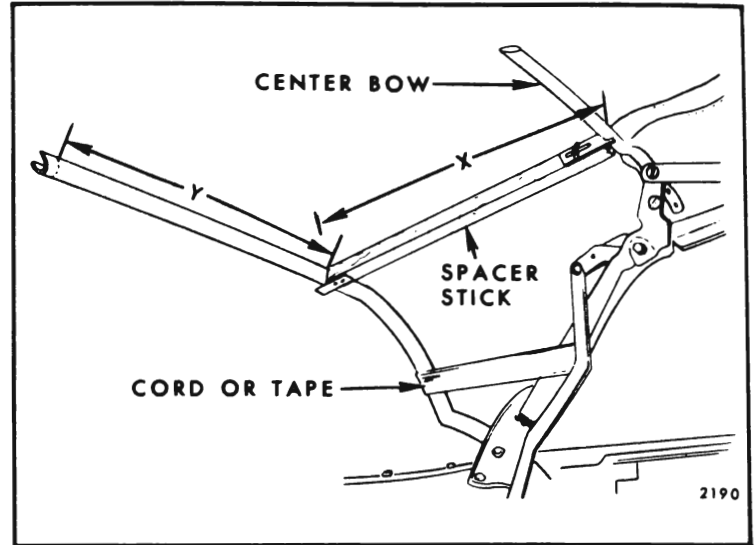

Fig. 6-10—Spacer Stick Installation
24. Lock top to windshield header. Install radius end of each adjustable spacer stick to fit against center roof bow. Install opposite end of spacer stick so that metal plate fits under rear roof bow. Spacer sticks should be installed along inboard edge of side stay pad (Fig. 6-10).
NOTE: The approximate dimension for location of spacer sticks, measuring outboard from centerline dimple of rear roof bow, is 19-3/4" for "B & C" Body Styles, 15-1/2" for "Z" Body Styles and 19-11/16" for "A" Body Styles. (See Dimension "Y" in Fig. 6-10.)
26. Temporarily tie or tape rear bow to rear side roof rails. (See Fig. 6-10.) Detach nylon webbing, side stay pads and back curtain assembly from rear bow.
1. If new top is being installed but it was impossible to perform step 24 of removal procedure, pre-set spacer sticks to shortest length and install between center and rear roof bow (Fig. 6-10). Adjust sticks so that
dimension "X" in Figure 6-10 (measured along spacer stick from front upper rolled edge of rear roof bow to center of center bow) is 14-7/8" on "B & C" Styles, 16-5/8" on "Z" Styles and 16-1/64" on "A" Styles. Tie or tape rear bow to rear side roof rails.